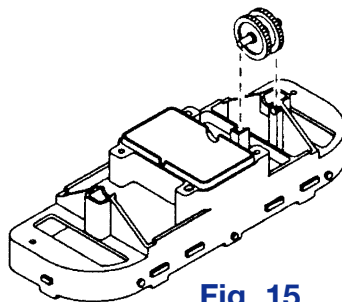

Fig. 15
6. Remove the short gear shaft and gears (Figure 15); do not lose the gears off of the shaft.